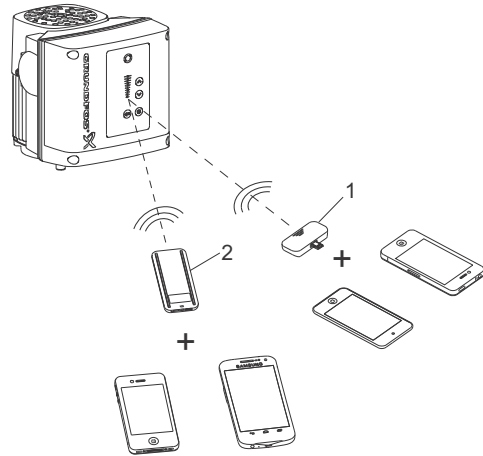

Fig. 12 Grundfos GO Remote communicating with the pump via radio or infrared connection (IR)
The Grundfos GO Remote enables setting of functions and gives access to status overviews, technical product information and actual operating parameters. The Grundfos GO Remote offers the following mobile interfaces (MI). See fig. 12.